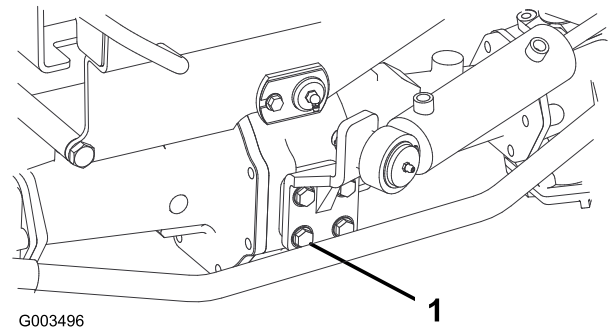

Figure 55
2. Check the torque on the steering-cylinder-mounting bolts (Figure 55).